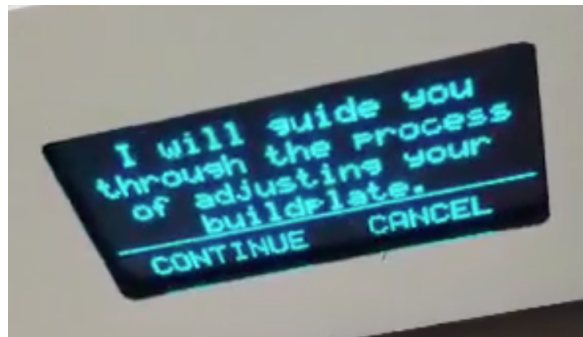

FIGURE 3
4. Follow the instructions on the screen of the printer (Figure 3). From experience, we recommend that the paper is stuck between the stage and the tip of the pen just enough to not be able to take it out ; one more rotation with the wheel would increase the space between the stage and the tip of the pen to allow the piece of paper to get out with scratches.